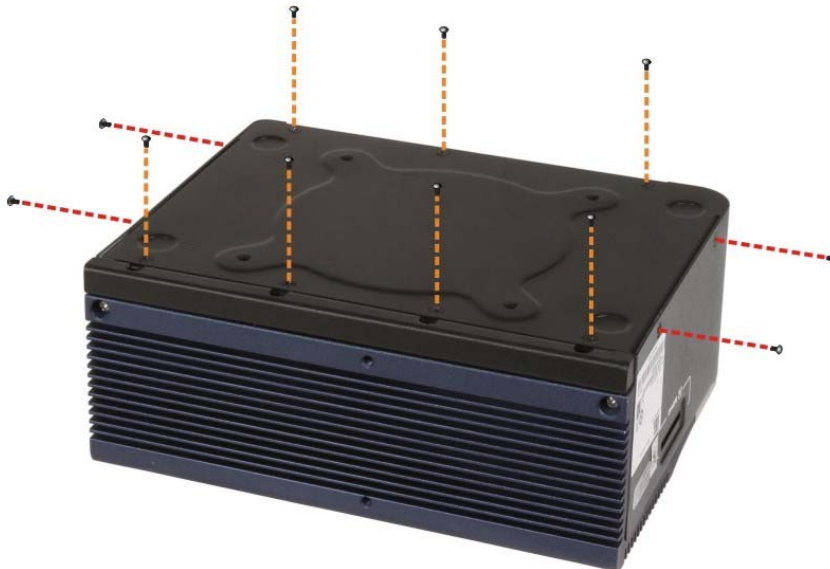

Figure 3-2: Bottom Panel Retention Screws
Step 2: Remove the bottom panel retention screws (**Figure 3-2**) and gently lift the bottom panel.